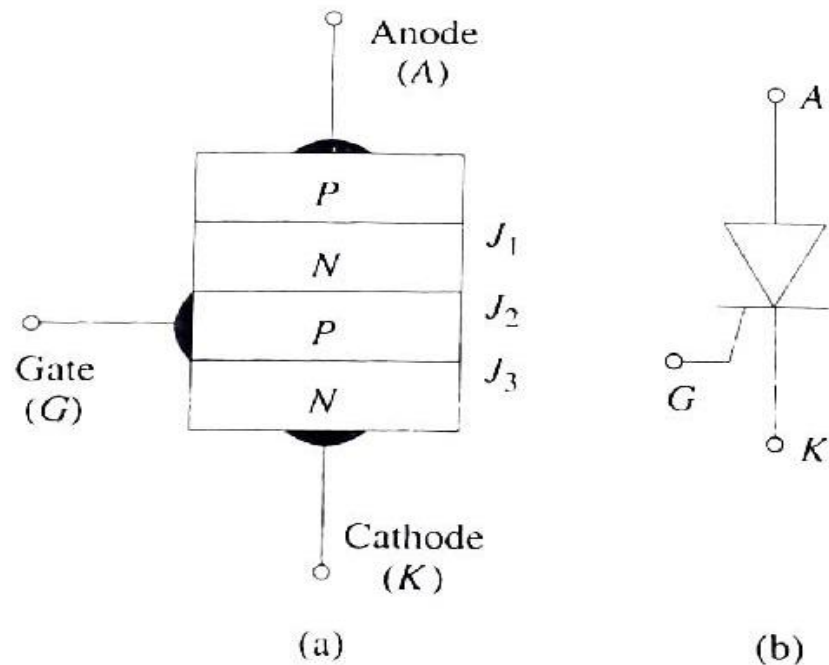

Fig. 1.1 (a) Structure (b) symbol
- The structure & symbol of the thyristor (SCR) are shown in Fig.1.1.
- It has 3 external terminals, namely, the anode (A), cathode (K) and gate (G).